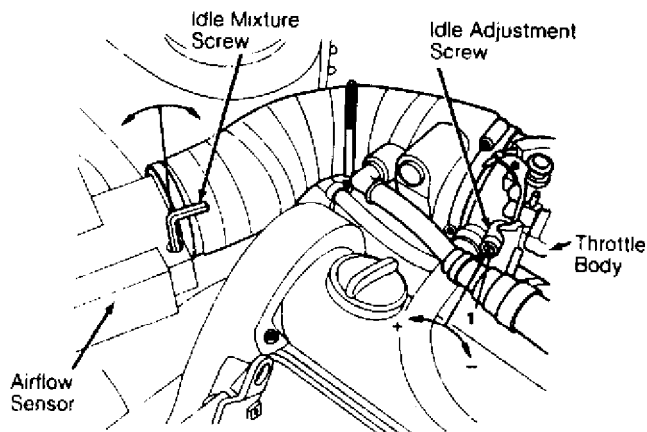

Fig. 5: Idle Mixture Screw & Adjustment Screw (1.8L)
5) Center punch plug in CO adjusting hole. See Fig. 5. Using a 3/32" drill bit, drill hole 5/32" (4 mm) deep in center of plug. Remove any metal shavings. Screw in a sheet metal screw and remove plug using pliers to pry plug out.